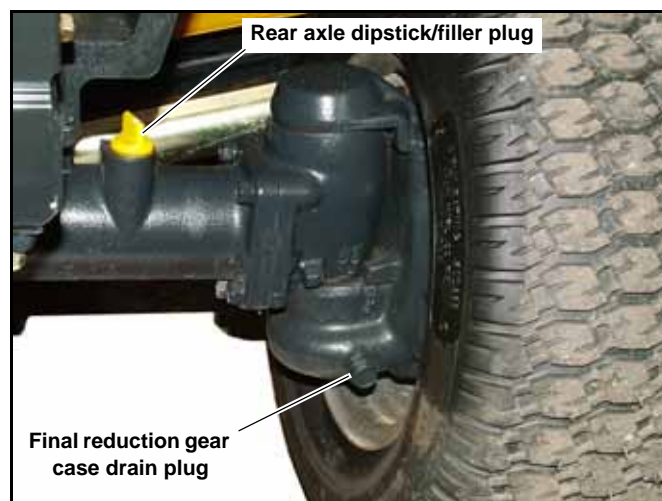
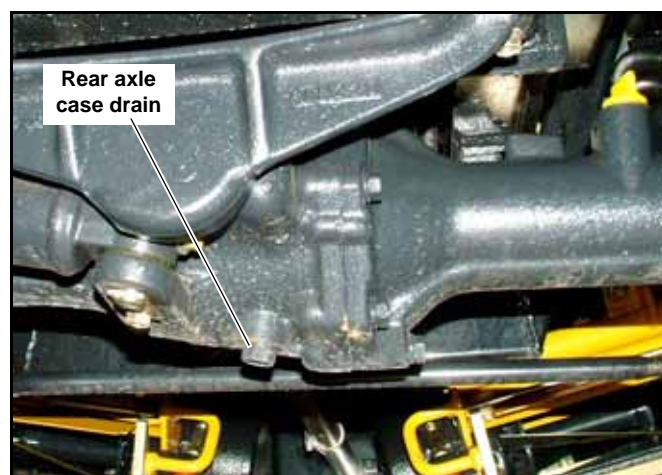

Figure 4-30
Figure 4-31
**NOTE:** Place the dipstick/filler plug horizontally over the oil inlet and measure the oil level. Do not screw dipstick into housing when checking oil level. Figure 4-30
1. With the oil at normal operating temperature, drain the oil by removing the rear axle and final reduction gear case drain plugs. Reinstall the plugs after the oil has drained. Discard the oil. Figure 4-30 & Figure 4-31
2. Supply new ISO VG46 hydraulic oil into the fill hole until oil level is between the two marks on the dipstick. Figure 4-30